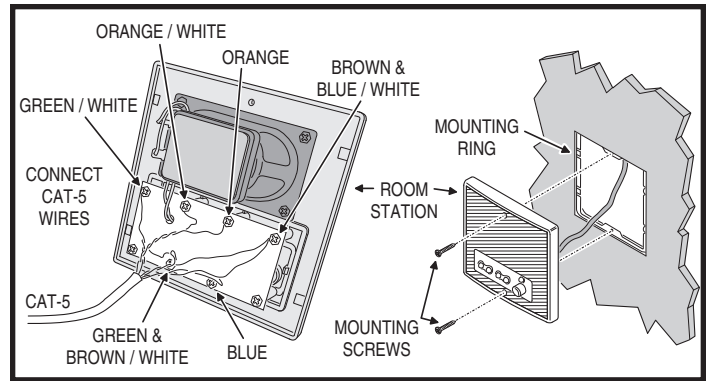

Figure 3. Attaching Room Station
4. Mount each Room Station to its mounting ring using the two screws provided with each dmc1 Room Station as shown in Figure 3.